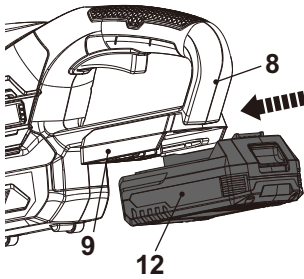

Fig. 3
1. Align the battery pack (12) with the sliding slots of the battery docking port (9) under the rear safeguard (8) and slide the battery pack (12) in to attach it. Ensure it clicks in place (Fig. 3).